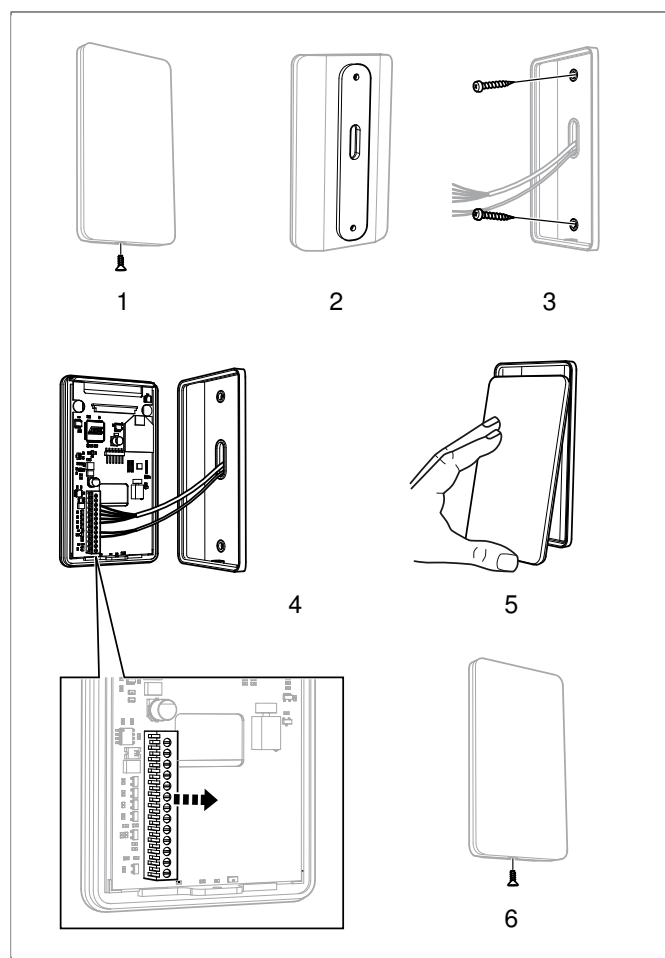

**Figure 15:** Installing the control panel
1. Slacken the lock screw and split the panel and back piece (see **Figure 15**, Page 6 pos 1).
2. Glue the seal onto the back piece (see **Figure 15**, Page 6 pos 2).
3. Mount the back piece leaving sufficient room for electrical cables to pass through their openings. Note that the hole for the retaining screw must be at the bottom (see **Figure 15**, Page 6 pos 3).
4. Screw the wires onto the terminals according to the wiring diagram (see **Figure 15**, Page 6 pos 4). To simplify connection, the long terminal can be removed from the circuit board when screwing on the wires. Pull the terminal straight out, do not bend it to avoid damage (see **Figure 15**, Page 6 detailed picture).
5. Slide on the control panel glass element from the bottom, and hold in place (see **Figure 15**, Page 6 pos 5).
6. Tighten the lock screw in the bottom edge (see **Figure 15**, Page 6 pos 6).